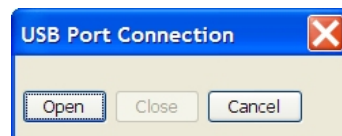

Fig. 4. The window of connection the port USB
7. To gain access to the buttons of the main window FLIP it is need to select the type of programming port and connect to it ; open the window (Fig. 4) Settings\Communication\USB (or press Ctrl+U) and press the button «Open»;